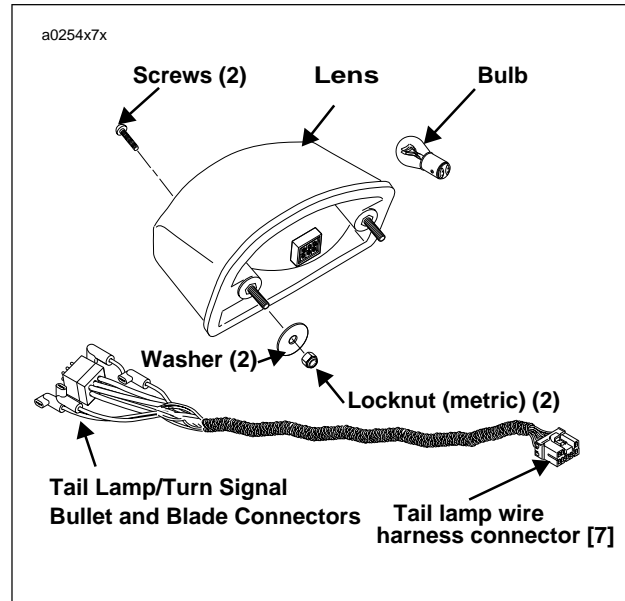

Figure 7-68. Tail Lamp
1. See Figure 7-68. Remove two screws and lens.
1. See Figure 7-68. Disconnect the 6-place tail lamp connector from rear of tail lamp under tail section.
1. See Figure 7-68. Attach tail lamp to tail section with two washers and locknuts (metric). Tighten locknuts to 23-33 **in-lbs** (2.6-3.7 Nm).
2. See Figure 7-68. Attach the 6-place tail lamp connector to the back of the tail lamp.